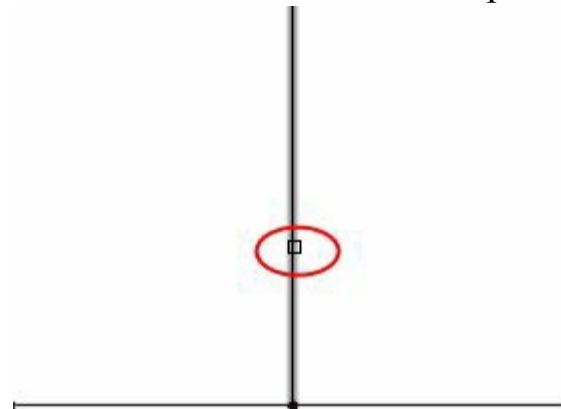

*Figure-61. Stretching wire*
- Click on the wire near the end point. The wire will stretch till it intersect with the facing wire; refer to Figure-61.